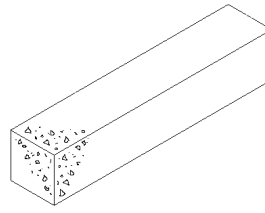

Figure 9(a)
9. (a) Many large buildings are constructed by using a framework of concrete beams as shown in Figure 9(a).